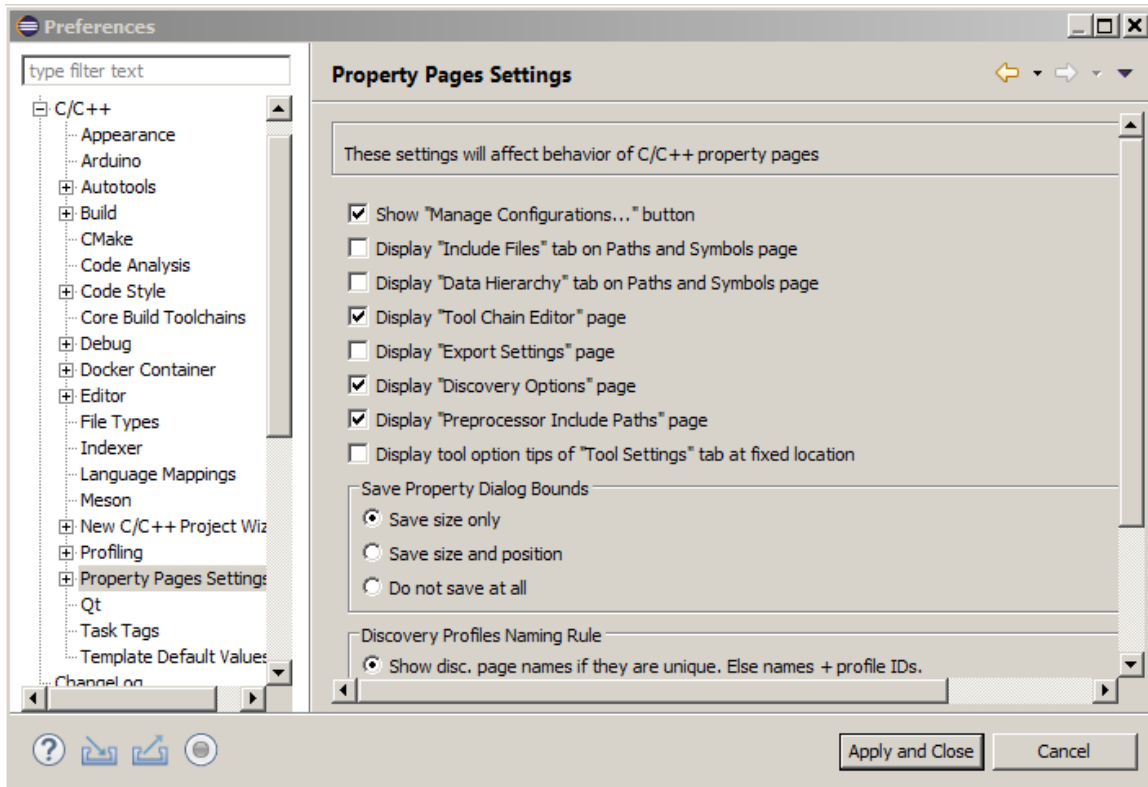

Figure 6 Eclipse Property Pages Settings Window
3. Click the **Display “Discovery Options”** page check box to enable. (Refer to Figure 6 below)